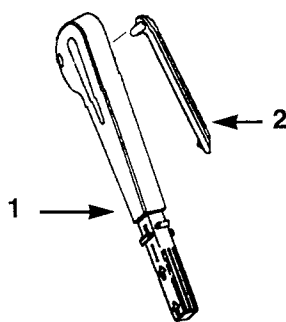

Figure 11
11. Line up the slot in the hopper lever with the key of the connecting rod and insert the connecting rod into the hopper lever (Fig. 11). Then rotate the hopper lever up.